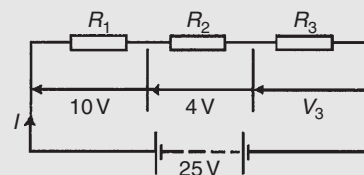

Figure 5.3
**Problem 2.** For the circuit shown in Fig. 5.3, determine the p.d. across resistor  $R_3$ . If the total resistance of the circuit is  $100 \Omega$ , determine the current flowing through resistor  $R_1$ . Find also the value of resistor  $R_2$